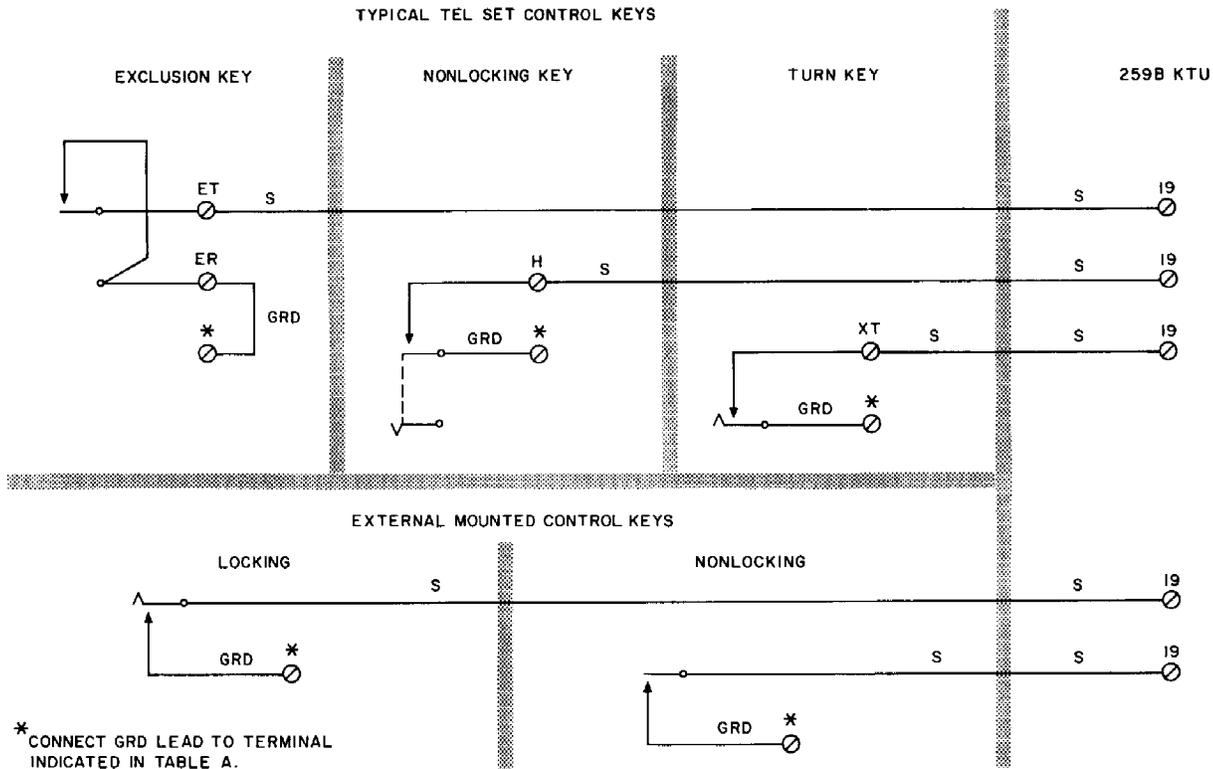

Fig. 1 — Typical Connections For Various Control Keys
**4.01** Table A and Fig. 1 show various types of key connections required to control the exclusion circuit.